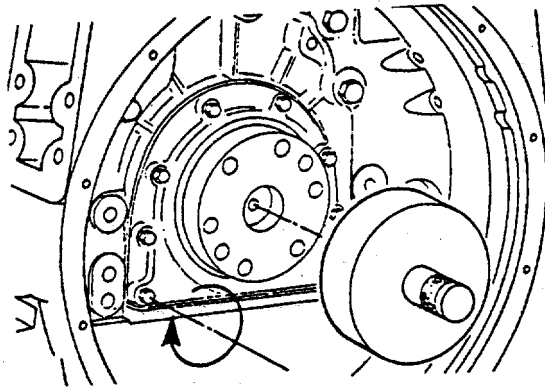

FIGURE 3-75. Checking Rear Cover and Oil Pan Flange.
- (8) Tighten the rear cover capscrews to 35 ft-lb (45 N·m) torque, and remove the crankshaft oil seal driver (Figure 3-75).
- (9) Use a feeler gauge to ensure the rear cover is within 0.004 inch (0.10 mm) of being parallel with the oil pan flange of the cylinder block (Figure 3-75).